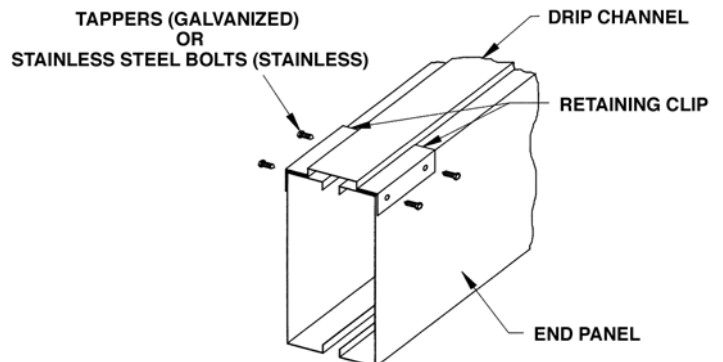

Figure 12 – Drip Channel Installation
9. Place the drip channel over the adjoining pan section flanges. Turn around the retaining clips and re-install them using the same hardware. (See Figure 12)